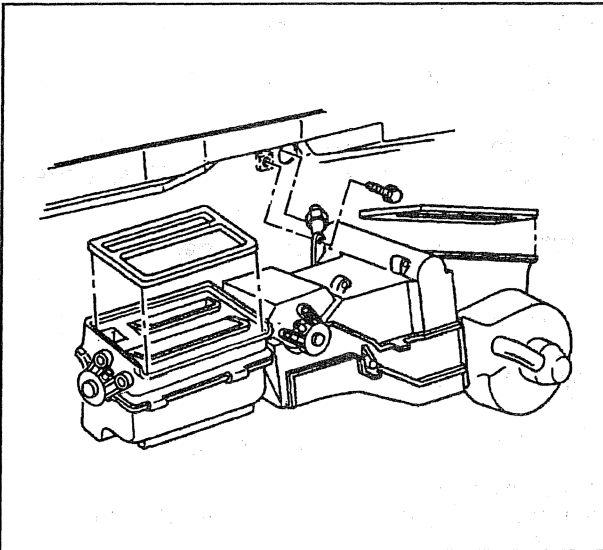

Figure 10—Heater Case (1 of 2)
### ↔ Remove or Disconnect (Figures 10 and 11)
### ↔ Install or Connect (Figures 10 and 11)
12. Screw on interior side of cowl, near the evaporator pipe (if equipped) while holding heater case to the cowl (figure 10).
### Install or Connect (Figures 10 and 11)